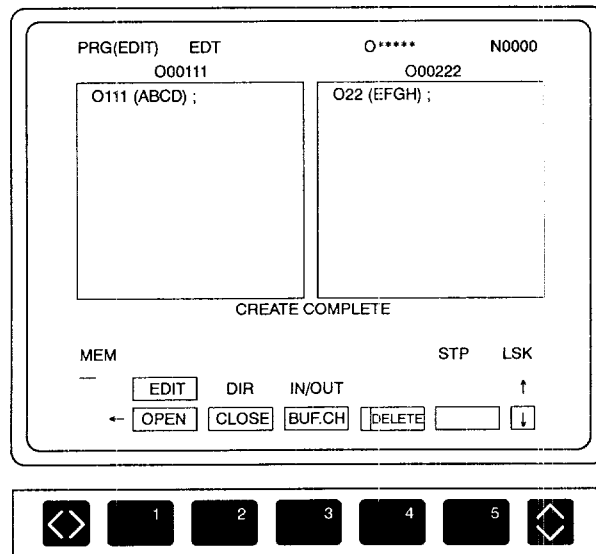

Fig. 4.2 Display Screen with Two Part Programs
Optionally, up to three part programs can be called at the same time. To call another program, press the [OPEN] (f1) function soft-key. The message "INPUT O NO." is displayed. Execute steps ③ and ④ in (a). Examples of screens where two or three part programs are called are shown in Figs. 4.2 and 4.3.